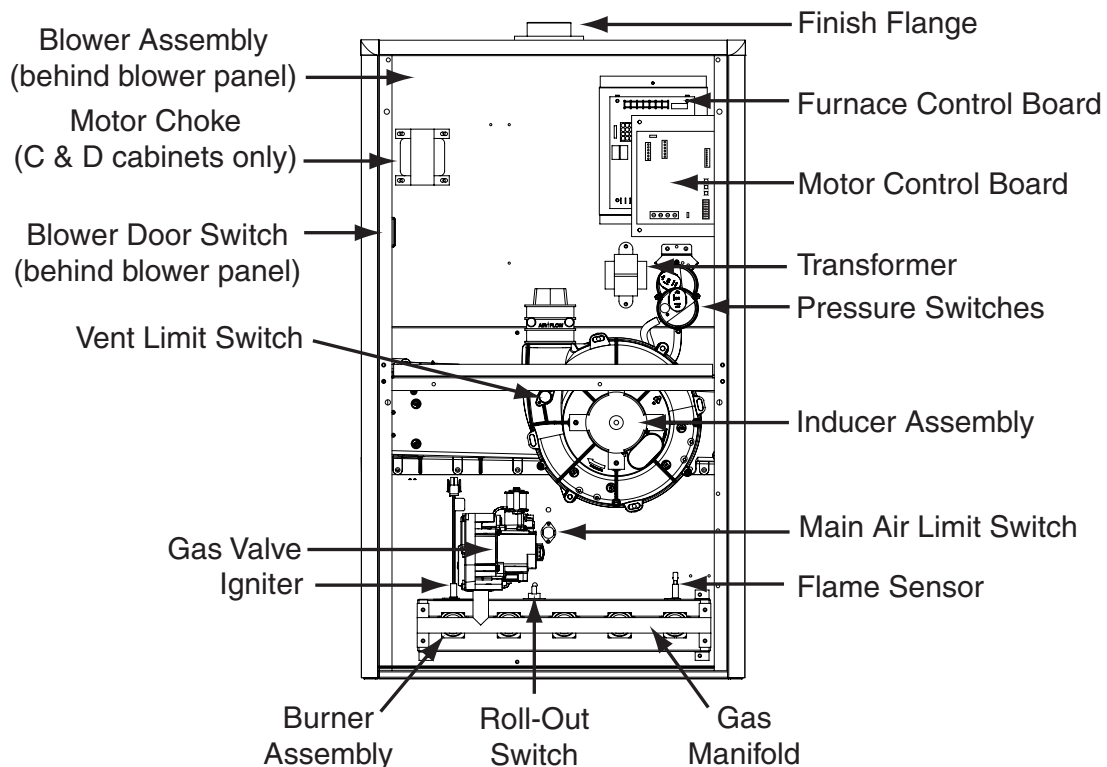

Figure 29. J962V*D Component Locations
- If the Inducer Blower is operating, and items above have been verified, check the Blower Limit Switch and reset if necessary. See Figure 29 \(page 34\).
- If the furnace still doesn't operate, check the Flame Roll-out Switches (Figure 29) and reset if necessary.
The descriptions below are various functional components that affect the operation and shutting down of this furnace. Some of these components and their locations are shown in Figure 29 \(page 34\). If any component of the furnace must be replaced, use only factory authorized replacement parts specified in the Replacement Parts List provided online.